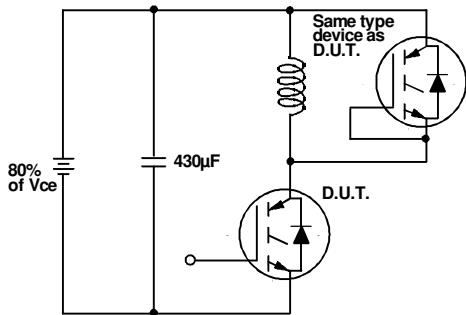

Fig. 18a - Test Circuit for Measurement of
- Fig. 18e - Macro Waveforms for Test Circuit of Fig. 18a